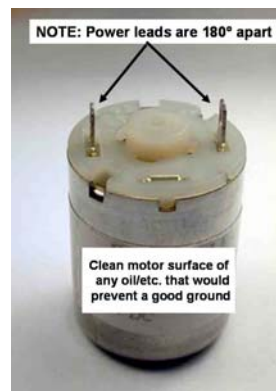

Figure 22. DC motor used to illustrate prototyping example. *Picture courtesy of Jastech EMC Consulting, LLC.*
- A. Figure 22 is a DC motor. The power leads are far apart and the end cap is plastic.